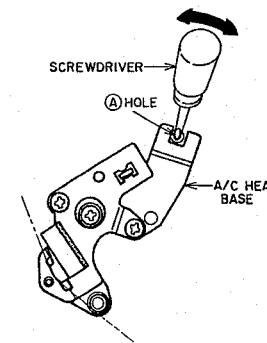

Fig. 4-17
- 5) Insert a sharp, flat head (←) screwdriver into the A/C HEAD BASE and Ⓐ hole as shown in Fig. 4-17.
- 6) Move the A/C HEAD BASE by moving a screwdriver in the direction of the arrow as shown in Fig. 4-17 to obtain the maximum RF output, then tighten the © screw.